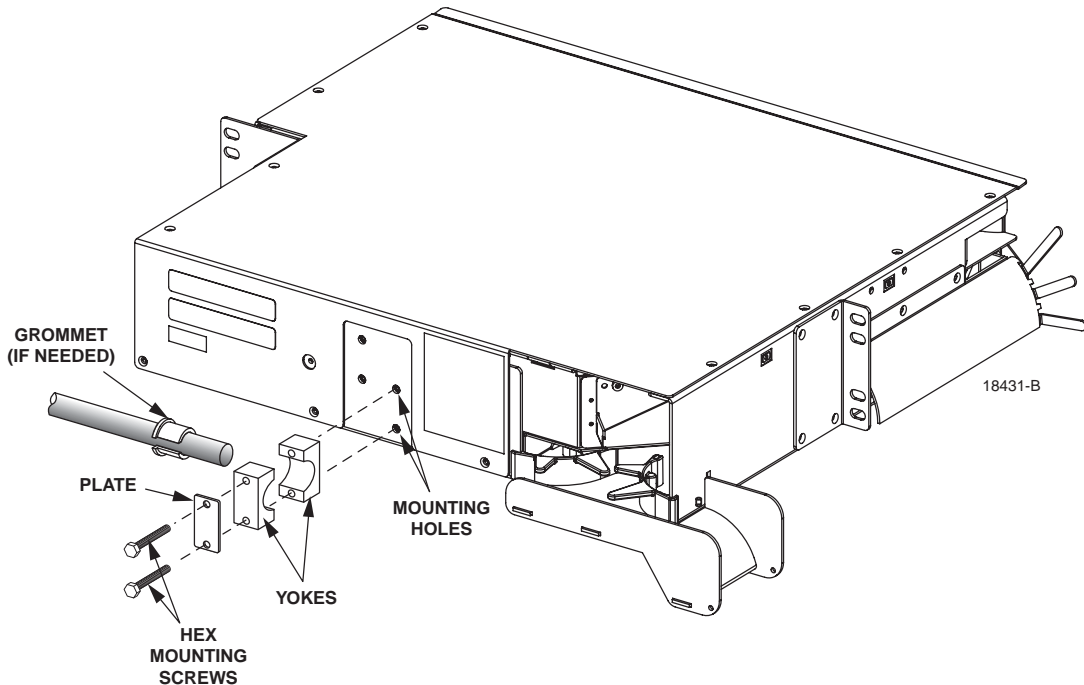

Figure 30. Clamping IFC Cable To 13-Slot MicroVAM Chassis
6. At the rear of the panel, clamp the cable to the panel using a cable clamp kit. The components of the cable clamp kit are shown in Figure 30.